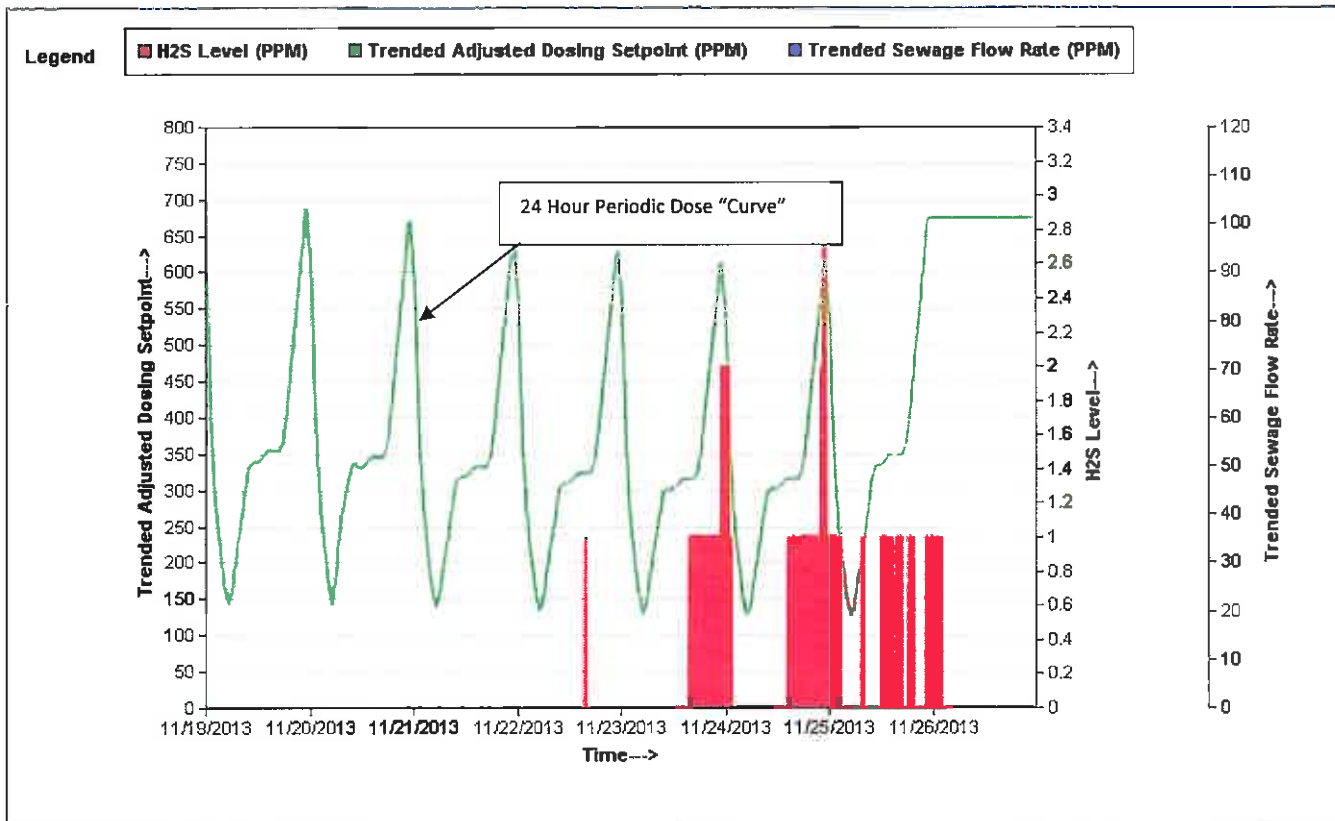

Figure 6 – 24 hour Dose curve with Hydrogen Sulfide Gas Plotted Versus 7 days
2. It is noted that while the dose curve is variable during a 24 hour period, hydrogen sulfide gas emissions are not constant as shown in Figure 6 due to system variations in the every wastewater system such as wastewater flowrates, nutrient level and rainwater infiltration.